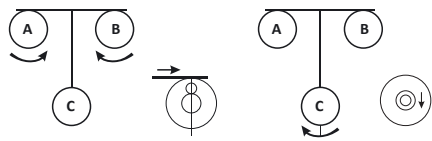

Figure 3
b) Rotate the lifting screws A, B, C to install the bubble vial in the center. By rotating the A and B screws simultaneously, move the bubble to the right. Rotation of the screw C will move the bubble back (Figure 3).